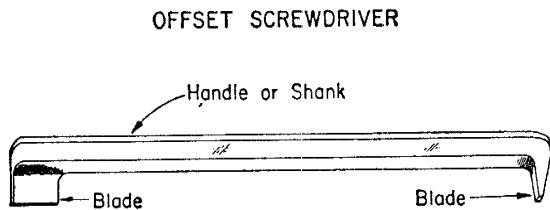

Fig. 9
**5.01** The offset screwdriver, illustrated in Fig. 9, has either one or two blades which project at a right angle to the handle or shank. The angles, however, that are listed in the Bell System Practices for the various types of offset
screwdrivers are determined by the angle formed by the face of the blade and the handle (Fig. 9 illustrates a 90° offset screwdriver).